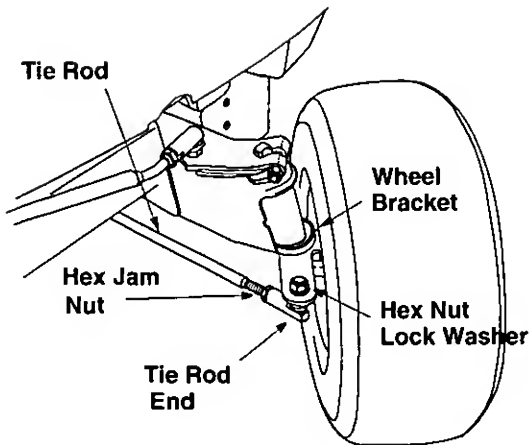

Figure 19
1. Remove hex nut and lock washer, and drop the end of the tie rod from the axle bracket. See Figure 19.